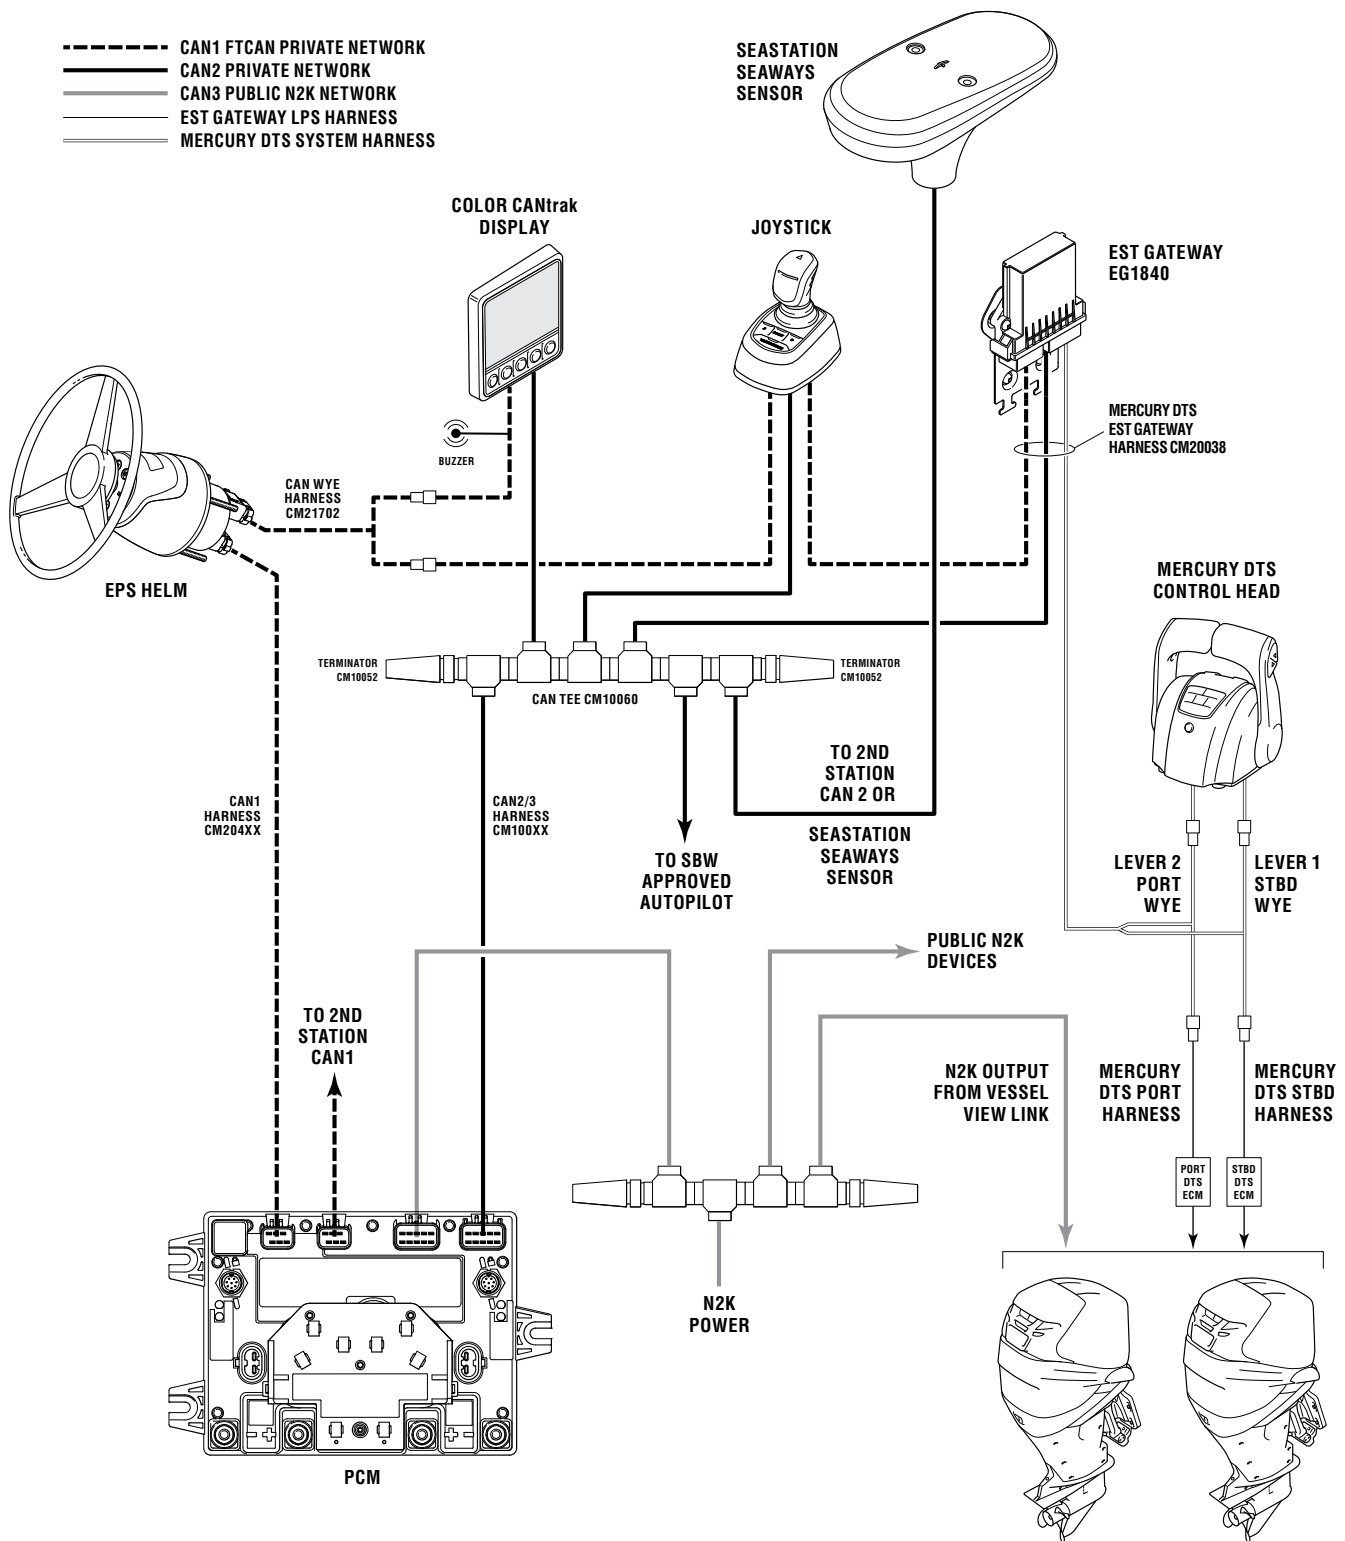
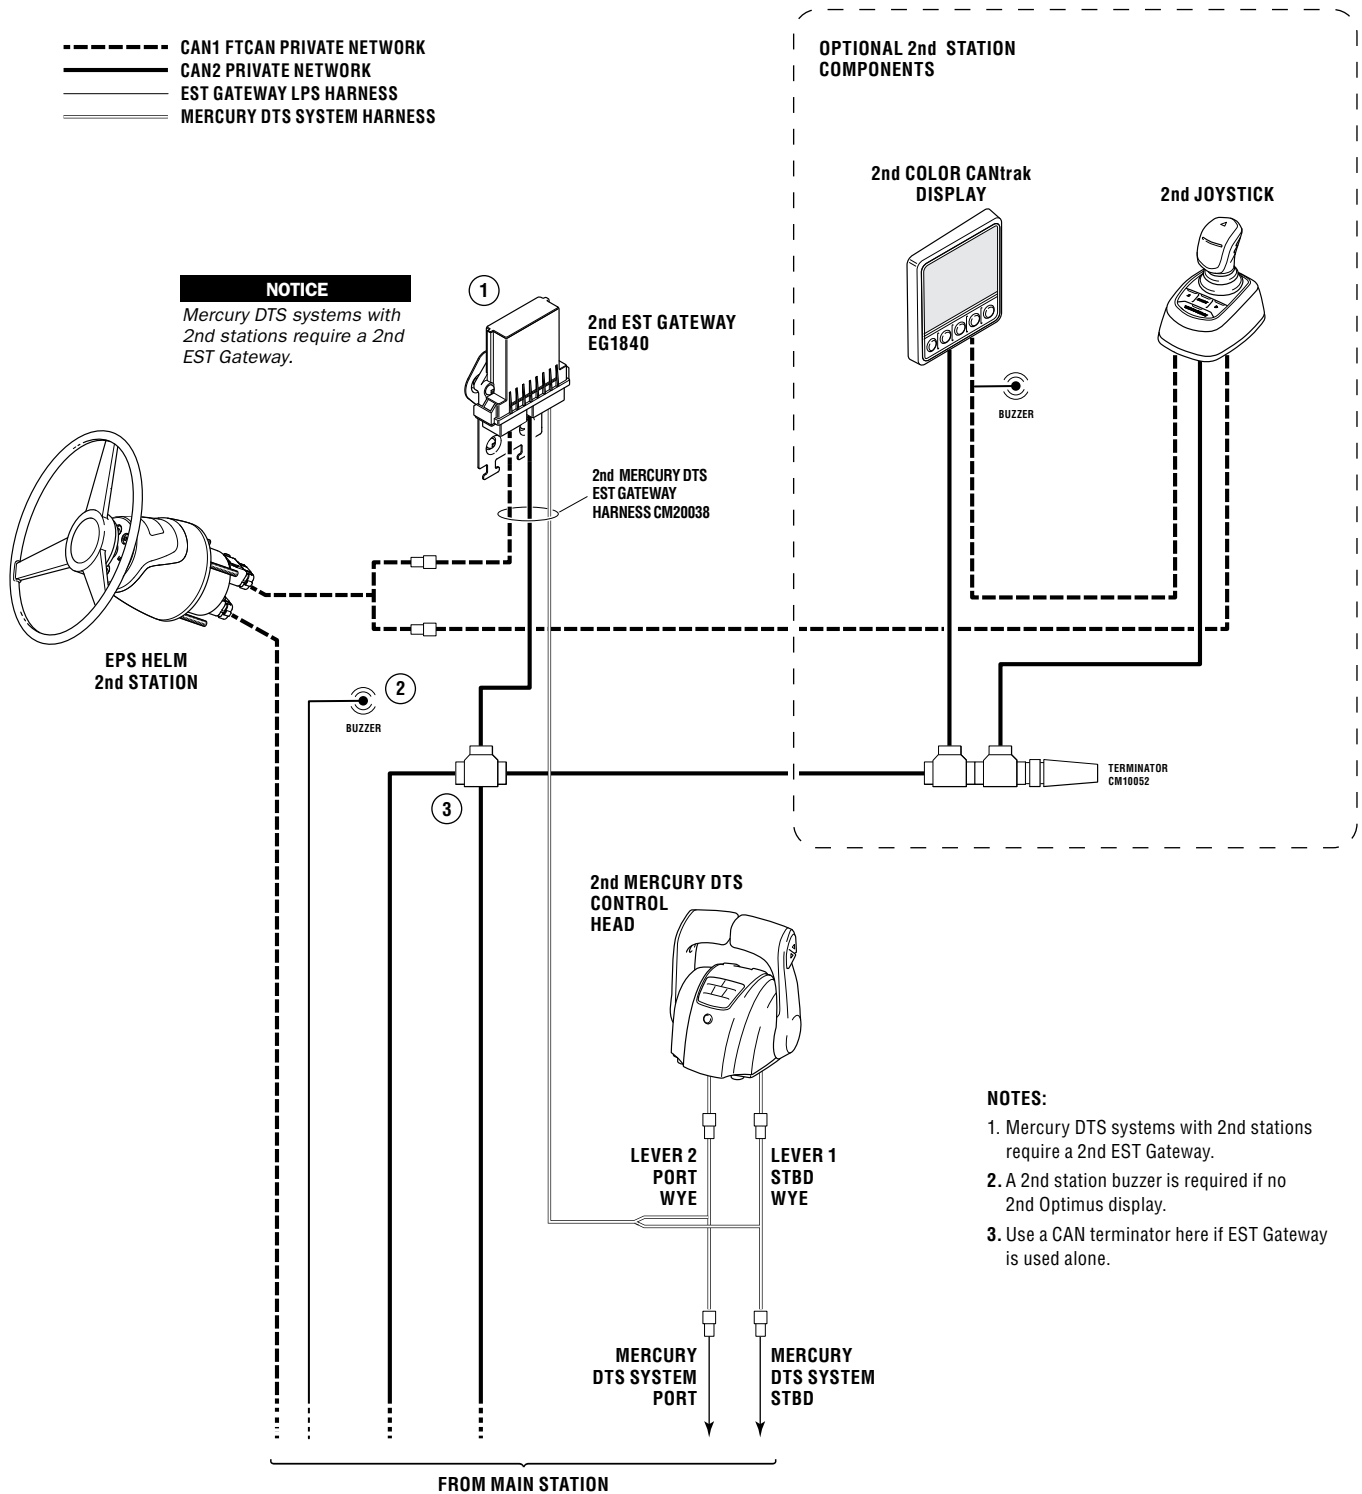

Figure 8-3. Mercury DTS – single station, twin engine.
Figure 8-4. Mercury DTS – Optional second station.
3. Complete the CAN1, CAN2 and CAN3 network connections (refer to figure 8-3 and figure 8-4).